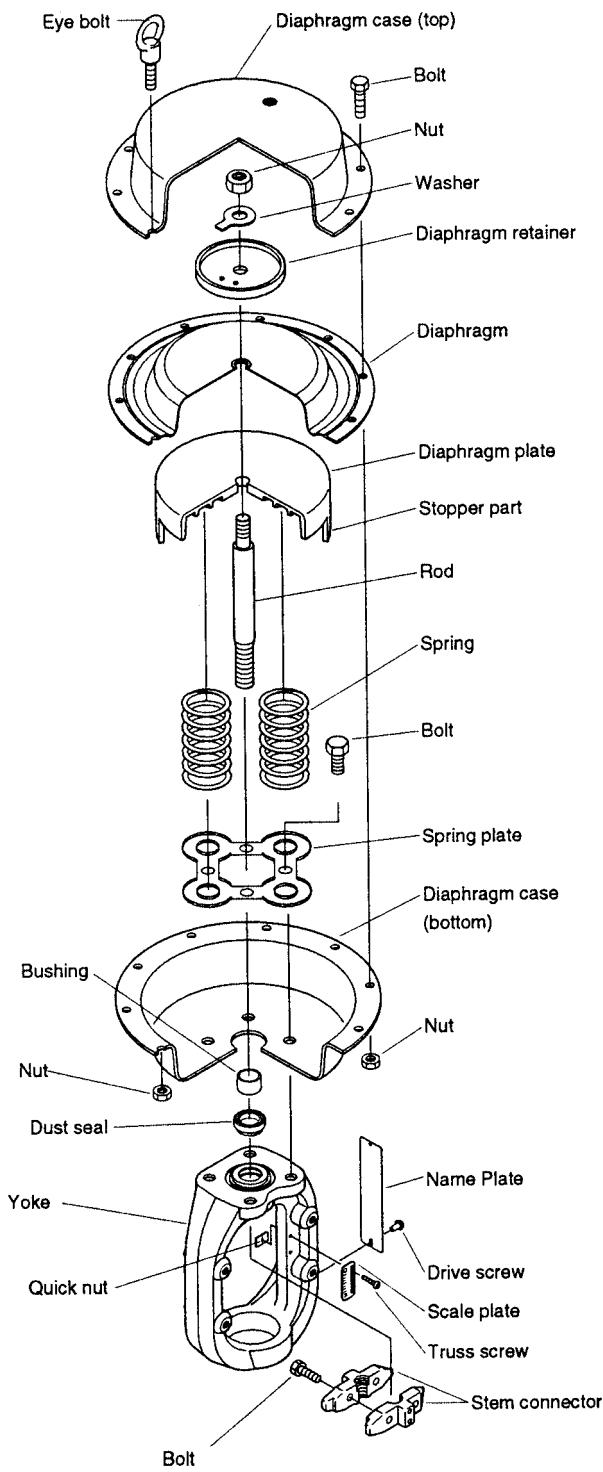
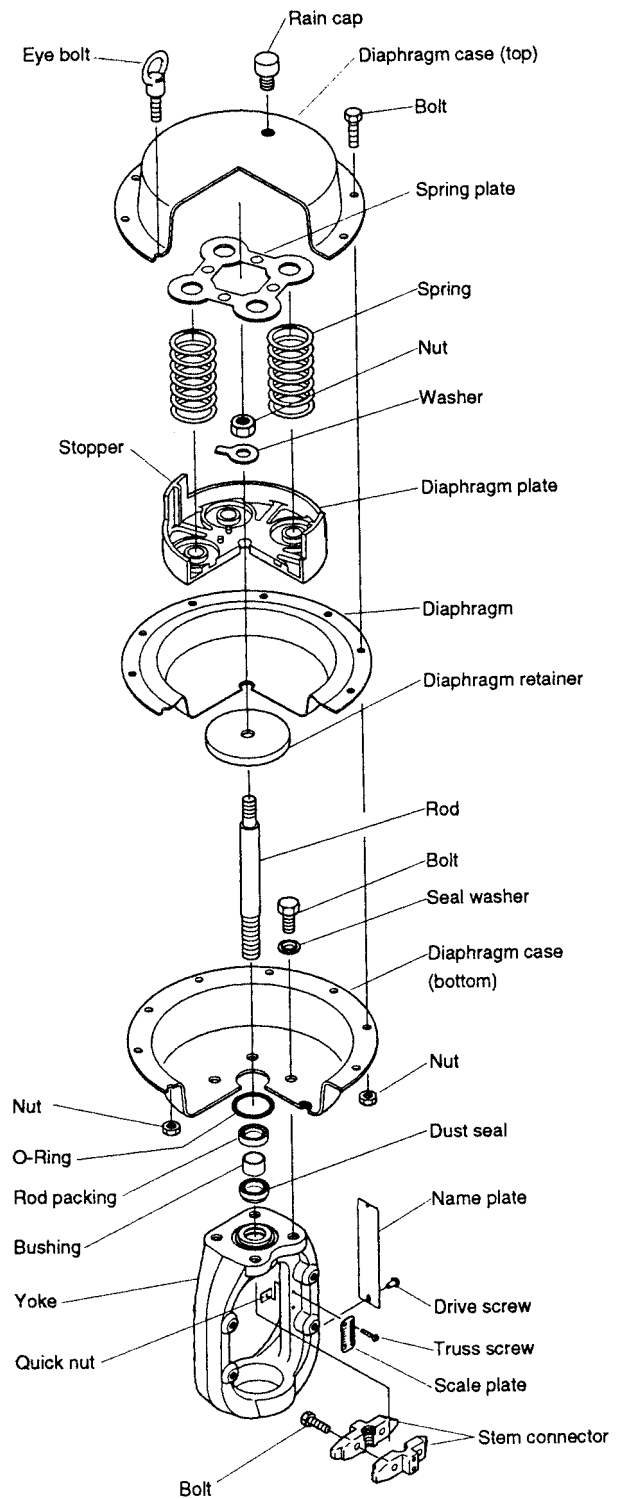

Fig. 4-4 Direct Action model PSAID
Fig. 4-5 Reverse Action model PSAIR
A. Direct action model (see Figure 4-4)
- (1) Disconnect the air piping and detach the accessories from the actuator.
- (2) Remove the stem connector.
- (3) Remove the clamping bolts (except the pair of eyebolts) from the diaphragm case.
- (4) Alternately and evenly loosen the pair of eyebolts. The initial setting of the springs is achieved using these eyebolts.
- (5) Removing the diaphragm case. Pull the actuator rod upward and out together with the diaphragm.
- (6) Take out the springs.
B. Reverse action model (see Figure 4-5)
- (1) Disconnect the air piping and detach the accessories from the actuator
- (4) Alternately and evenly loosen the pair of eyebolts. The initial setting of the springs is achieved using the eyebolts.
- (5) Remove the diaphragm case. Take on the springs.
- (6) Pull the actuator rod upward and out together with the diaphragm.
Refer to Fig.4-4.
Refer to Fig.4-5.